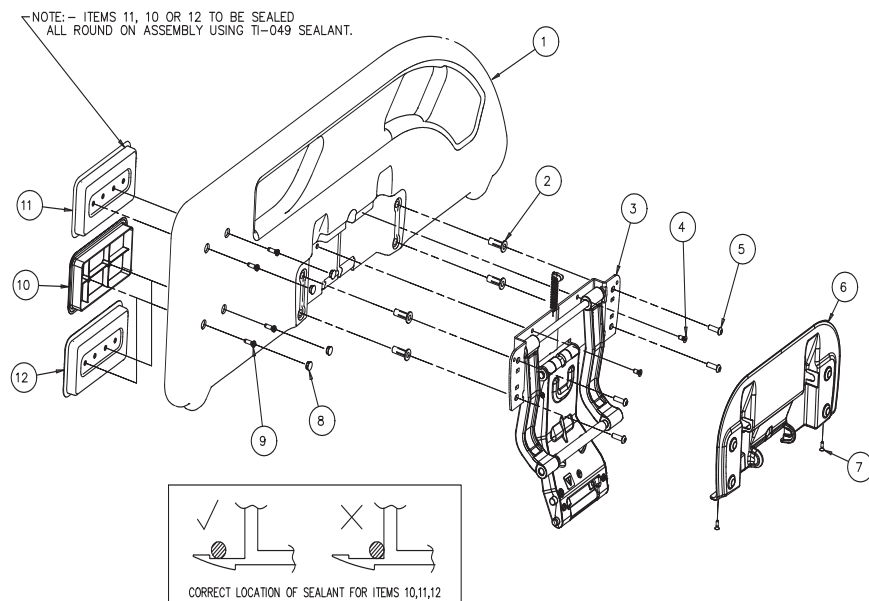

Figure 13: Safety Side Assembly Foot End
This section describes how to replace the Attendant Control Panel (ACP). Reference is made throughout this section to Figure on page 22 and Figure 13 on page 46.
- 13.1.1 Pry off the screw cover (Fig 13, Item 8). Remove two Ejot screws (Fig 13, Item 9) to release either the ACP (Fig 13, Item 11).
- 13.1.2 Pull the ACP panel out of the foot end split side rail moulding (Fig 13, Item 1). Take care not to strain the attached wiring.
- 13.2.1 Connect the ACP cable (Fig , Item 21) to the ACP (Fig 13, Item 11). Make sure the two halves of the connector latch together securely.
- 13.2.2 Install the ACP (Fig 13, Item 11) in the foot end split side rail moulding (Fig 13, Item 1). Tuck any excess length of cable down inside the split side rail moulding.
- 13.2.3 Fit two Ejot screws (Fig 13, Item 9) to secure the ACP panel and refit the screw cover (Fig 13, Item 8).